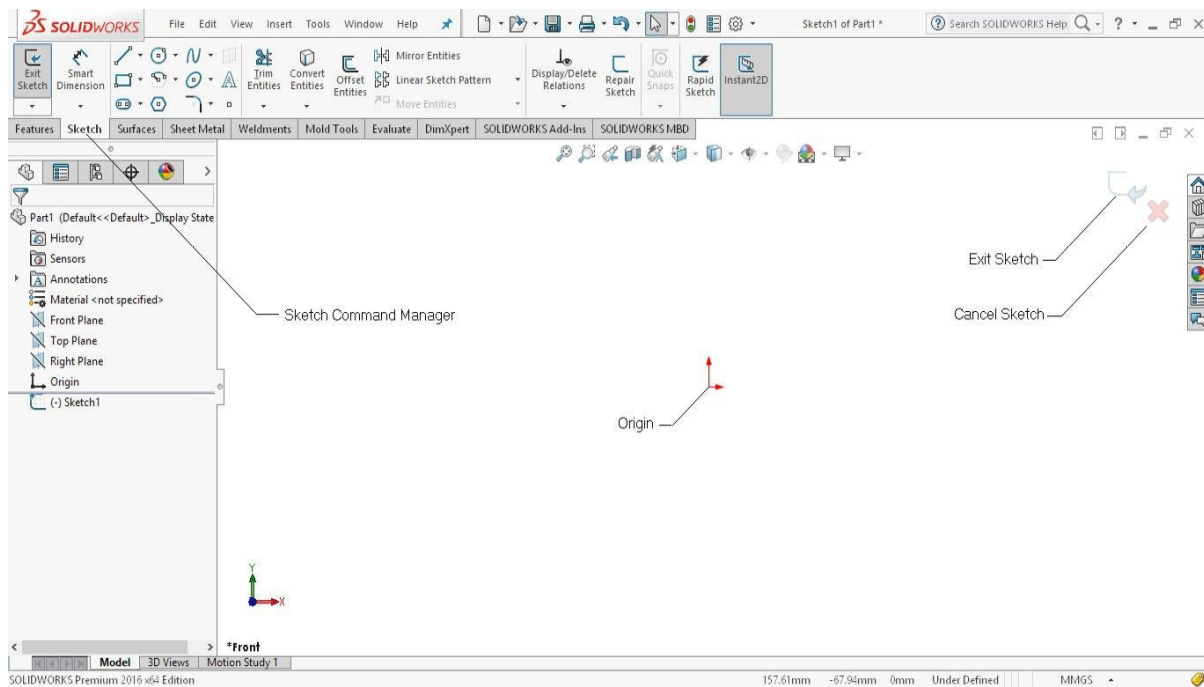

Figure 2-13 Default interface display of a part document in the sketching environment
5. Select the **Front Plane** from the graphics area; the sketching environment is invoked and the selected plane gets oriented normal to the view. You will notice that the red colored arrows are displayed at the center of the interface window, indicating that you are in the sketching environment. Also, the confirmation corner with the **Exit Sketch** and **Cancel Sketch** options at the upper right corner in the drawing area is displayed. The window display in the sketching environment of SOLIDWORKS is shown in Figure 2-13.